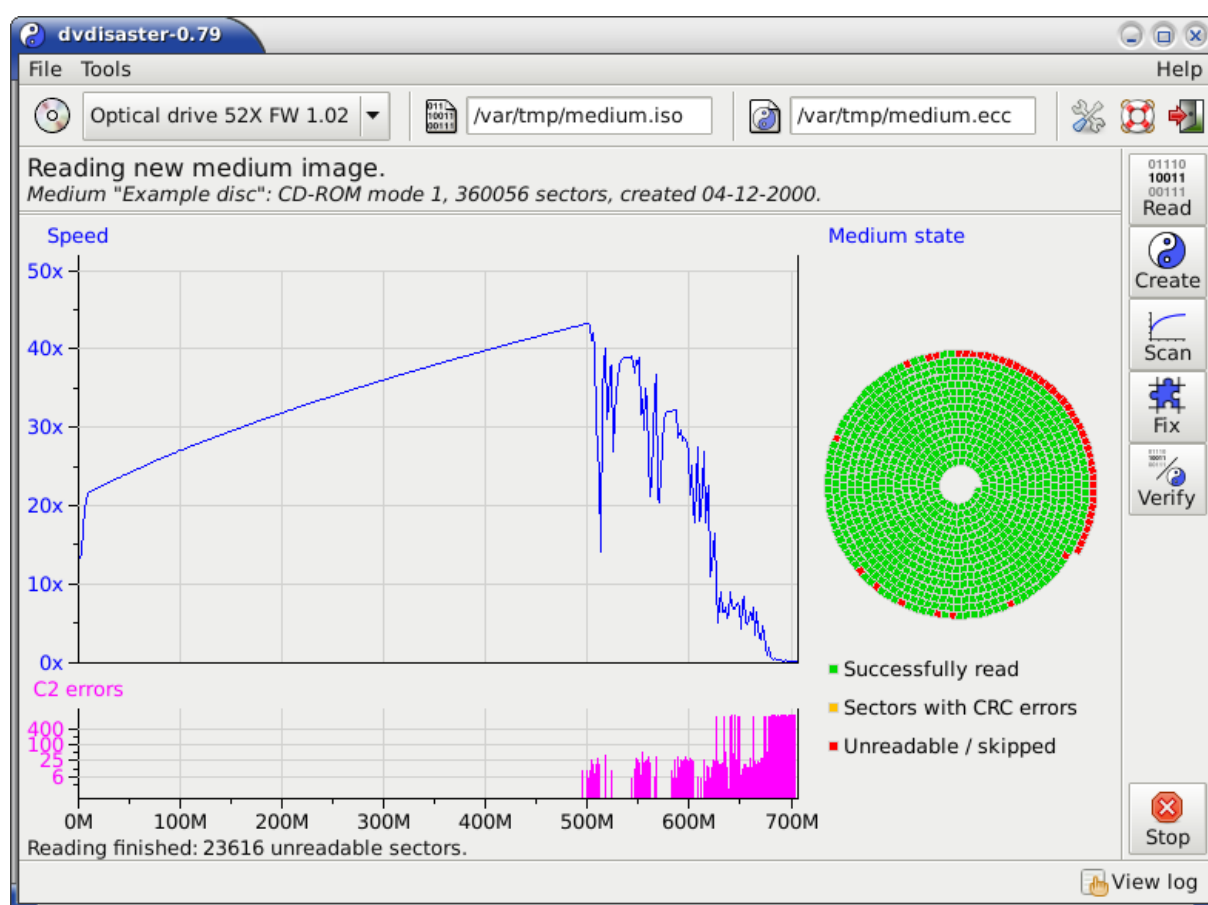

Figure 1: Reading a defective medium.
**Recovery of aged media.** The medium processed here has become discolored and partly unreadable in its outer region. A reading attempt yields about 23.600 unreadable sectors of 360056 sectors total; resulting in about 6,6% defective sectors. Figure 1 shows the dvdaster window after the reading attempt. The distribution of reading speed and read errors over the medium is graphically shown. The still readable sectors are stored in an ISO image called *medium.iso*.